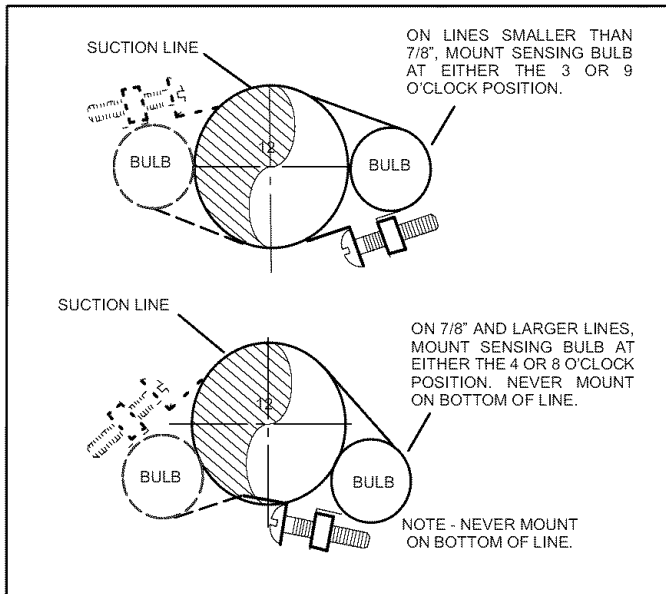

Figure 25. TXV Sensing Bulb Installation
- Attach the suction line sensing bulb in the proper orientation as illustrated in figure 25 using the clamp and screws provided.